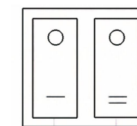

Fig.3
4. Draw up two finger nuts on one side and two finger nuts on the other - in clamp extensions passed through the wheel plate supports, after making sure that 2 openings in the wheel plate match together with the clamp extensions (see Figure 3).
2. To select the first heating stage (440 W - Econom), put the left key on the electric heating switch located near the control panel in the upper part of the appliance body to I position (Fig.3).